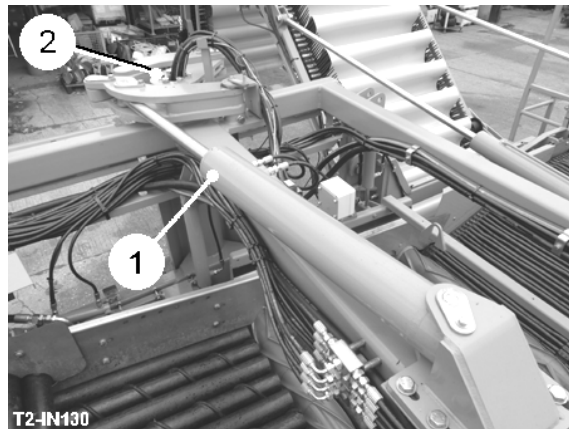

Fig 19
The RH wheel should be tracked fully in for transport and fully out during work to give optimum balance and reduce wheel loading during operation. The RH wheel is rotated into position by the tracking ram (item 1, fig 19).
Regularly check the tightness of the rotate arm M18 setscrews x6 (item 2, fig 19). Torque set to 425 Nm (315 lb/ft).